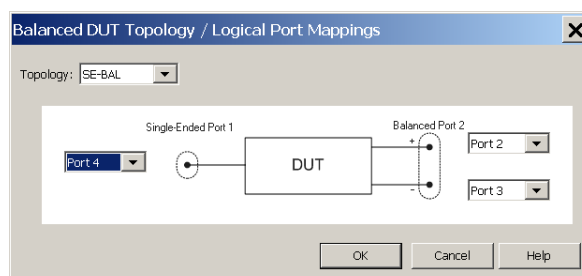

Figure 4 Logical Port Mapping for EO measurement
For EO measurement the single-ended (SE), logical port 1 is assigned to physical port 4 and the balanced (BAL), logical port 2 is assigned to physical ports 2 and 3 (see Figure 4).